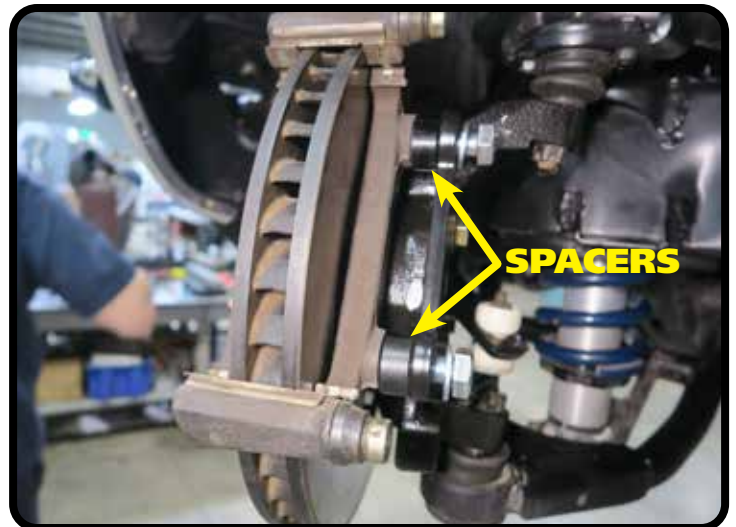

Figure 18
**24.** Mount the brake caliper mount to the caliper bracket with (2) M14-2.0 x 45mm bolts and M14 washers. Insert a 90003549 spacer on each bolt, between the caliper bracket and the caliper mount (Figure 18). Torque to **125 ft-lbs**.